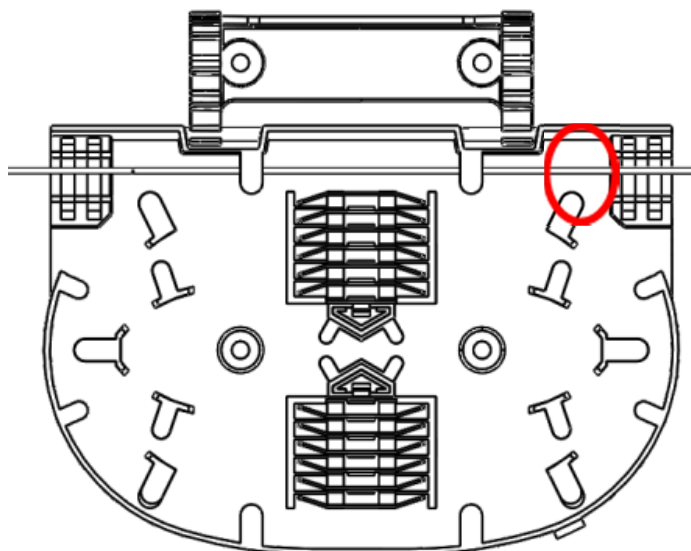

Figure 18
1.5.4 Place the tube into the desired position for installation. Place a mark where to prep the tube/jacket of the cable. (Fig. 18);